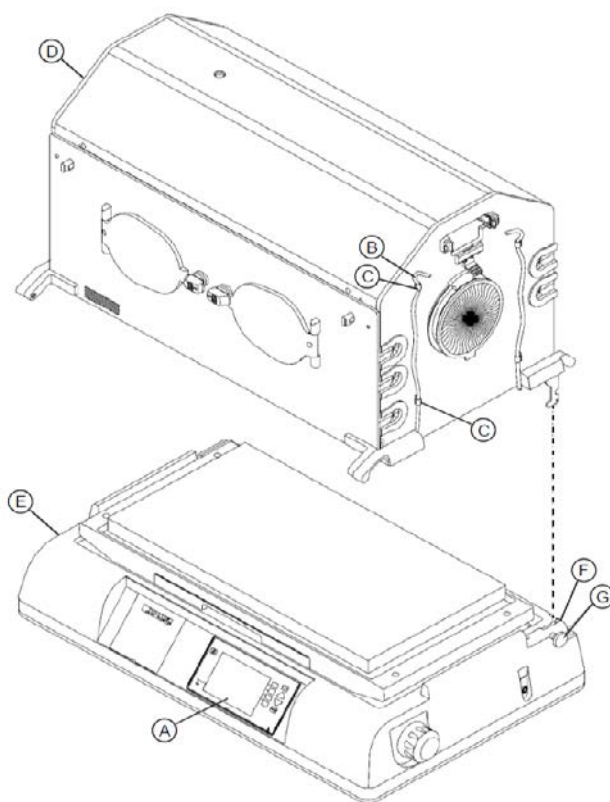

Fig. 56 Hood Assembly
- 5 Unplug the power cord from the back of the controller assembly (Fig. 56/A).
- 6 If installed, remove the scale connector cable (Fig. 56/B) from the cable clamps (Fig. 56/C) on the end of the hood assembly (Fig. 56/D).
- 7 Tilt the hood assembly (Fig. 56/D) back until it is fully open.
- 8 Stand one person behind the incubator at each end of the hood assembly (Fig. 56/D), and have each person lift their end of the hood assembly (Fig. 56/D) straight up from the upper shell assembly (Fig. 56/E). The person at the sensor module end of the hood assembly (Fig. 56/D) **must** release the knob (Fig. 56/G) while lifting.
- 9 Carefully remove the hood assembly (Fig. 56/D) from the unit.